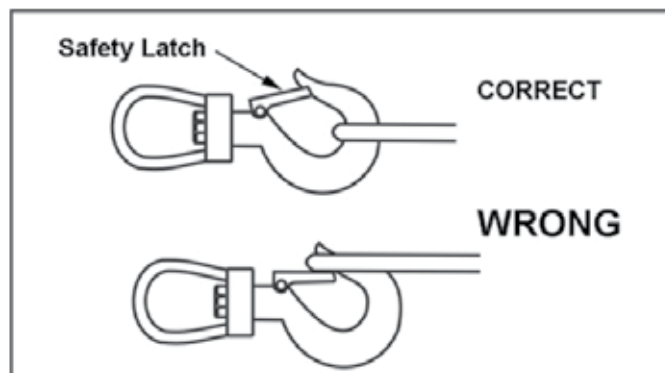

FIGURE 3
1. Place load cable(s) in the middle of the hook and inside the safety latch. DO NOT attach any cables outside the safety latch on either side of the puller hook or the wire rope hook. See Figure 3.